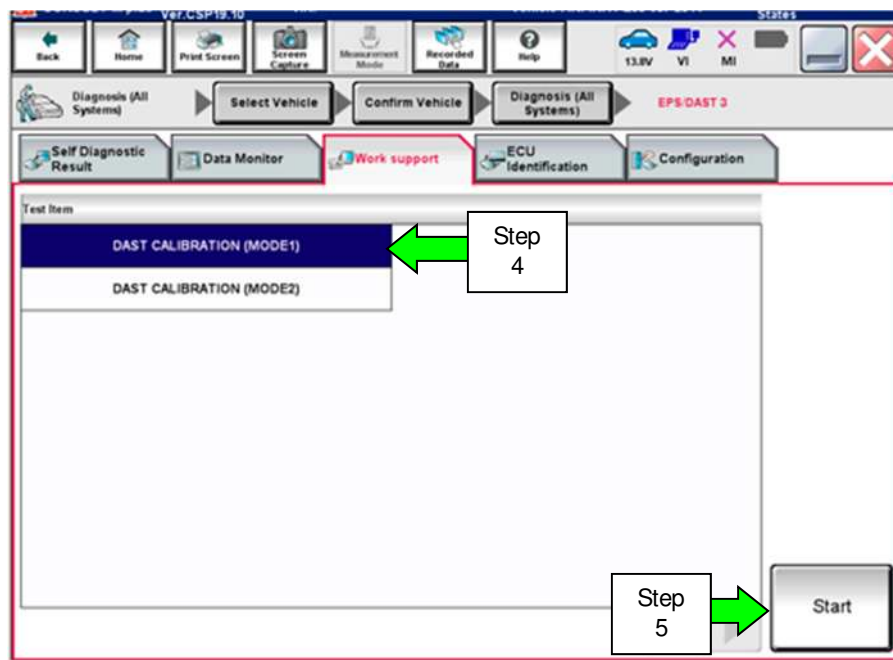

Figure 1
4. On the C-III plus screen, select Diagnosis (All Systems). After system call has completed, select EPS/DAST 3 >> Work support >> DAST CALIBRATION (MODE1). See Figure 1.